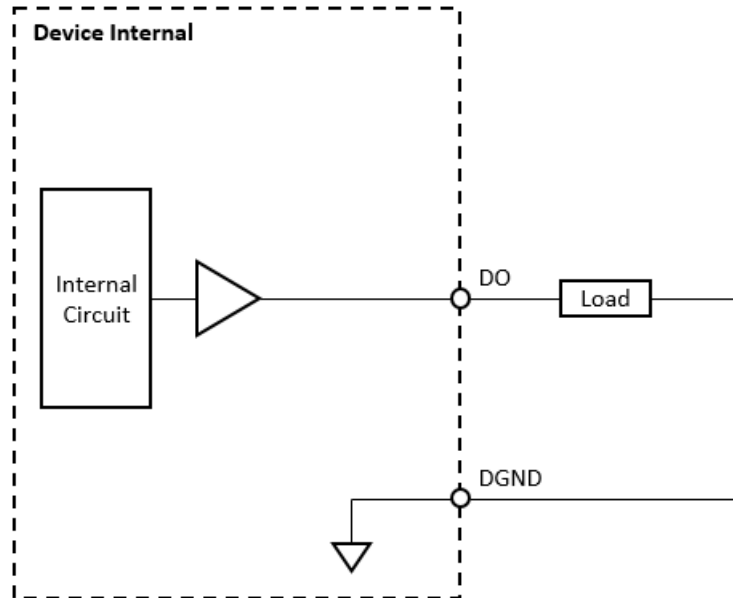

Figure 3.4 Digital output signal connection
A digital input/output (DI/O) channel can be configured by software to perform digital input measurement, which is the power-on default configuration, or digital output generation. When performing digital output generation, a voltage logic level is generated between the digital output (DO) terminal and the digital ground (DGND) terminal. This is shown in Figure 3.4.